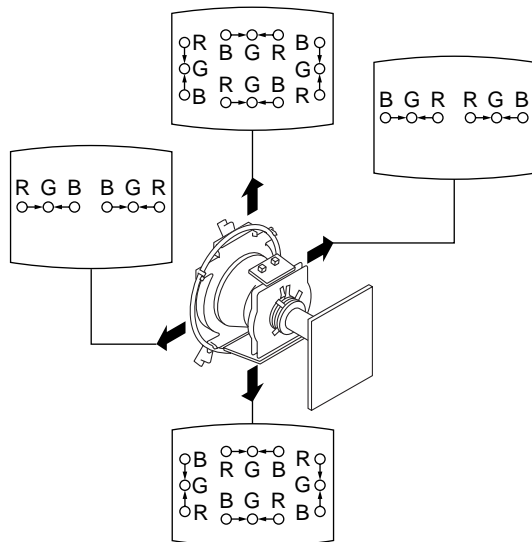

Fig.3-7
1. Adjust by the deflection yoke (swivel) to screen both sides cross mis-convergence become finest whole screen. (Fig.3-7)